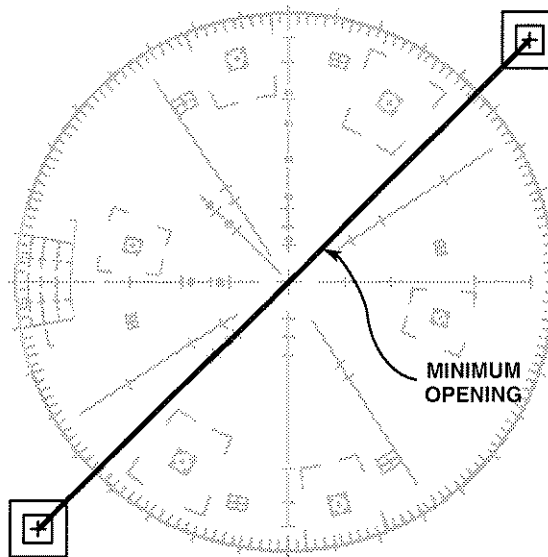

Figure 5–10: Audio frequency XY display.
- a. Connect the Audio Signal Generator output to both pins 3 and 7. See Figure 5–9.
- d. **CHECK** – that there is a trace width or less separation in the diagonal display. See Figure 5–10.
- a. Connect the Leveled Sine wave Generator to pin 3 of the 1725 rear-panel XY INPUT connector. See Figure 5–9.
- i. Connect the audio signal to pin 11 and ground pin 9 of the 1725 rear-panel XY INPUT connector. See Figure 5–9.